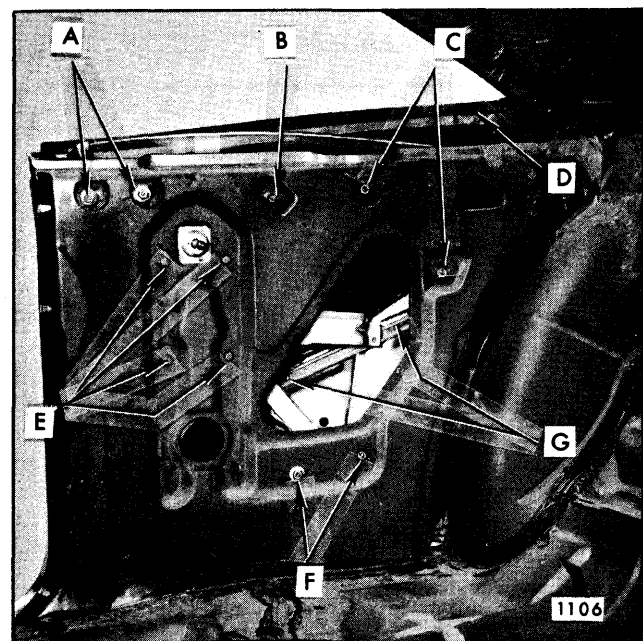

Fig. 8-48—Rear Quarter Hardware - "B and C" Hardtop Styles
3. Remove regulator attaching bolts (Fig. 8-48). Disengage regulator lift arm roller from window lower sash channel cam and remove regulator through inner panel access hole.
2. With window in almost fully lowered position, remove lower sash channel cam attaching screws and remove cam (Fig. 8-48). Manually raise window to full-up and prop in that position.
4. On the remaining styles, disconnect wire harness at motor. Remove window regulator attaching bolts (Fig. 8-48) and remove regulator through inner panel access hole.
2. Remove front guide upper and lower adjusting stud nuts (Fig. 8-48) and remove guide through access hole.
guide upper and lower adjusting stud nuts (Fig. 8-48). Disengage guide from roller on window lower sash channel and remove guide through access hole.